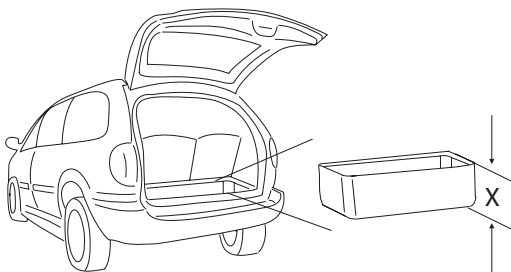

Figure 4-20
2. Measure the height of the well. **See Figure 4-20.**